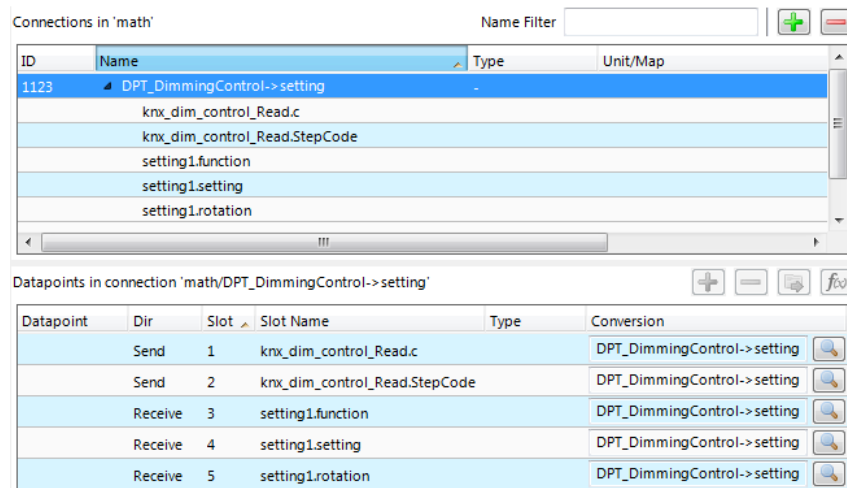

Figure 85: Created new multi-slot connection from math adapter.
- In the dialog **Select Multi-Slot Math Adapter** select an existing adapter and click **Select**. A new multi-slot connection is added to the connection list with empty slots as depicted in Figure 85.